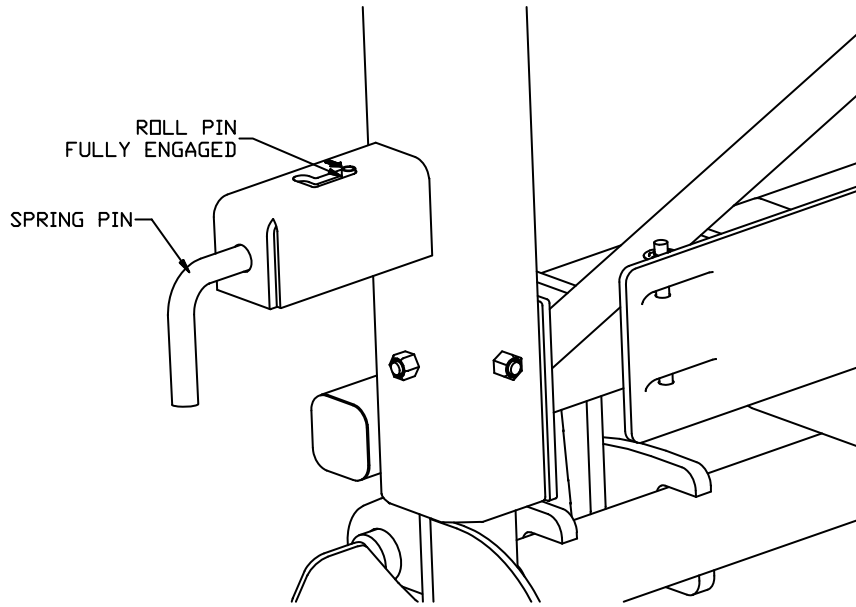

Figure 8.
- 4) Turn the Spring Pin clockwise to unlock. See Figure 8.
- 6) Once the spreader reaches its final position, be sure the Spring Pin is fully engaged. See Figure 8.